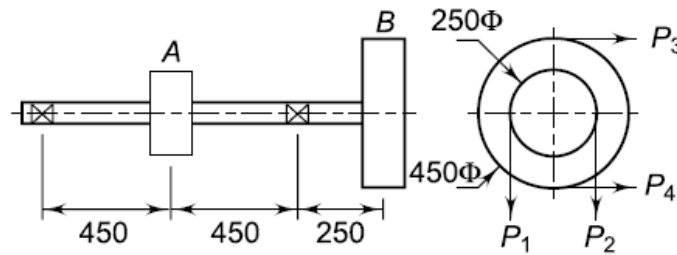

Fig.5
8. A line shaft supporting two pulleys A and B is shown in Fig.5. Power is supplied to the shaft by means of a vertical belt on the pulley A, which is then transmitted to the pulley